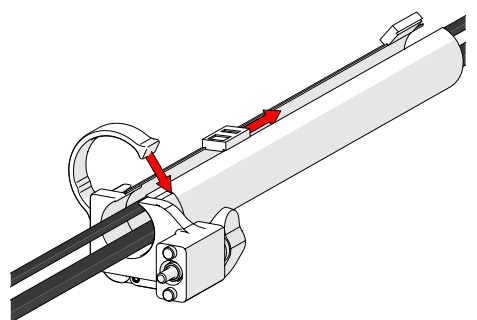

Fig. 183 - Zip to close
2. Follow the cable placement, zipping the tube closed (*Fig. 183*).